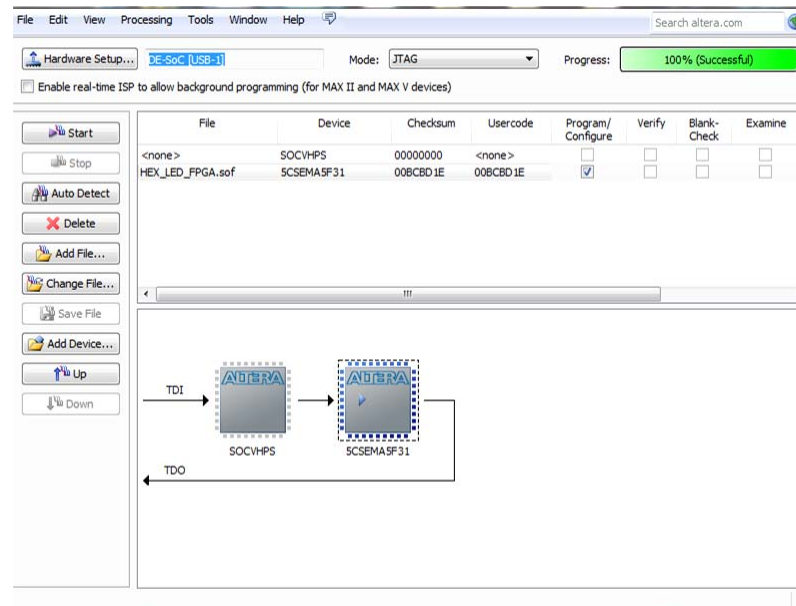

Fig. 9: Quartus Programmer Window
5. Now you will have 3 chips/devices present in the programmer. Highlight the 5CSEMA5 device containing no .sof file (in the top window). Right click the device and select delete. You should now have the SOCVHPS and .sof device present in the programmer space as shown in Fig. 9.